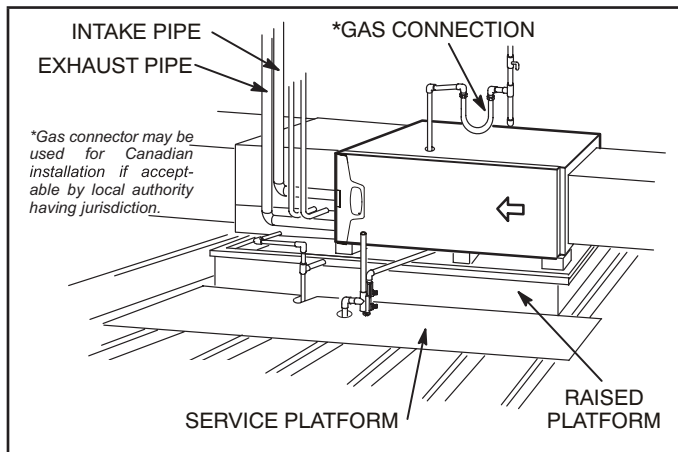

FIGURE 19
This furnace may be installed in either an attic or a crawlspace. Either suspend the furnace from roof rafters or floor joists, as shown in FIGURE 18, or install the furnace on a platform, as shown in FIGURE 19. A horizontal suspension kit (51W10) may be ordered from Lennox or use equivalent.
- 2 - Construct a raised wooden frame and cover frame with a plywood sheet. If unit is installed above finished space, install an auxiliary drain pan under unit. Set unit in drain pan as shown in FIGURE 19. Leave 8 inches for service clearance below unit for condensate trap.